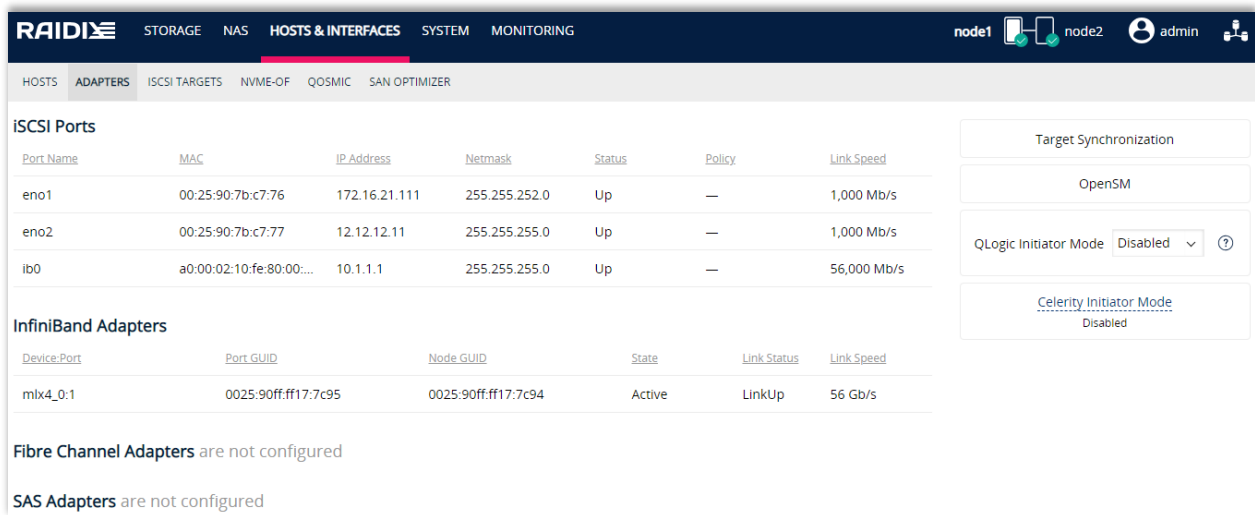

Figure 35. ADAPTERS page
1. At any node, select **HOSTS & INTERFACES > ADAPTERS**. At the InfiniBand Adapters section, each target corresponds to the one InfiniBand port (Figure 35).